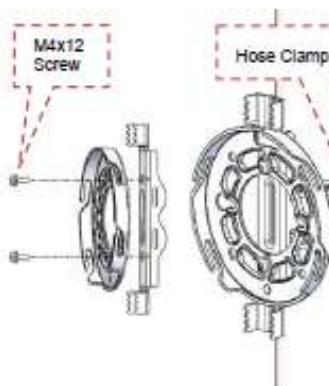
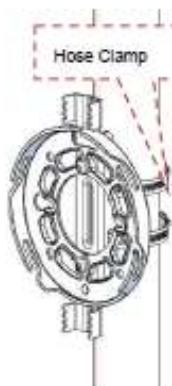

Figure 3-30
Figure 3-31
**Step 1.** Use the Screw(M4X12) to cross the bracket and fastener, use torque screwdriver to tighten the screw to the 1.4N.m (Figure 3-30). Insert hose clamps thru fastener and around pole (Figure 3-31). Tighten hose clamps to 5.5 Nm torque.